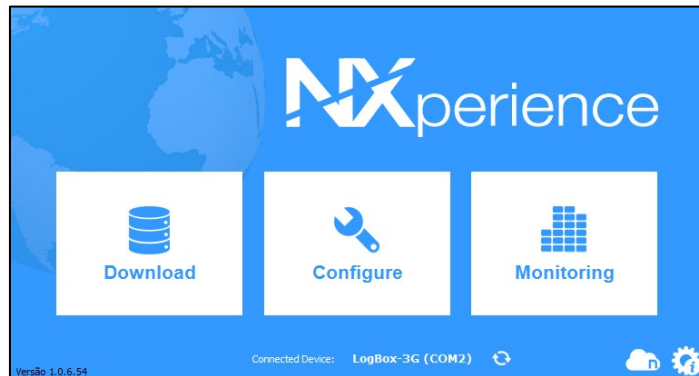
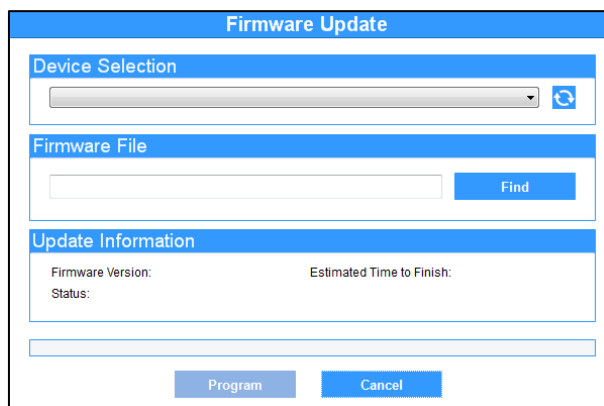

Fig. 51 – NXperience home screen
Fig. 52 – Firmware update
- f. On the **NXperience** startup screen, as shown in **Fig. 51**, pressing the **Ctrl + Shift + F12** keys simultaneously will cause the firmware update screen to reappear, as shown in **Fig. 52**.